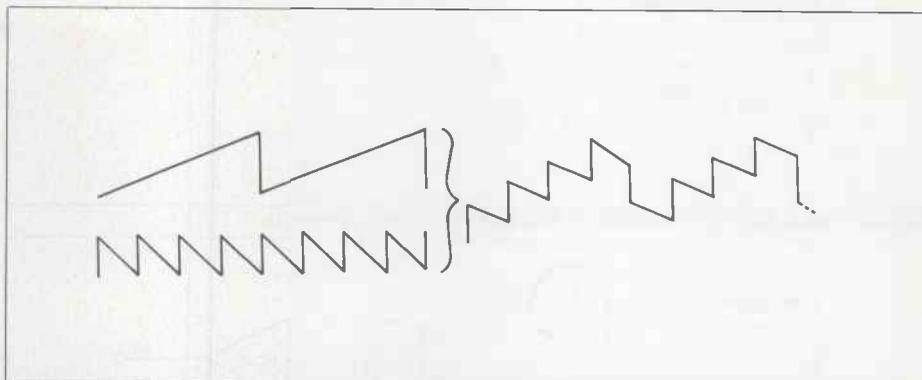

Figure 1a. Mixing a sawtooth and inverted sawtooth waveform to produce staircase-type waveform.
synthesiser, but many more interesting effects can be obtained by mixing two (or more) LFOs together and applying them to the control voltage (CV) input of a VCO. Dependant on the relative levels of the waveforms many varied results can be obtained. Figures 1a and 1b give some examples of the various waveforms that can be produced with this technique. As you can see there are a lot of possibilities for special modulation effects to be had and the permutations (as with all synthesis) are endless.